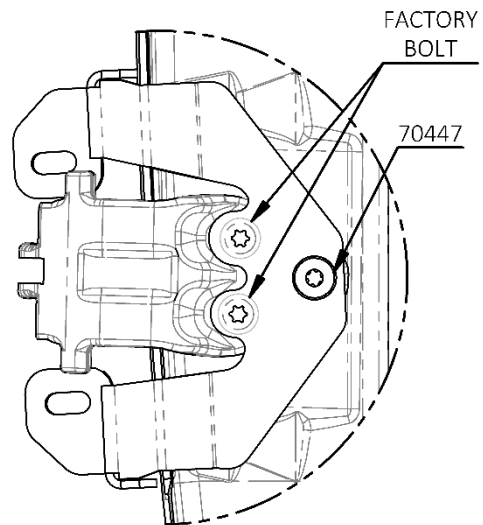

Figure 5: Lower Bracket Installed
12. Reinstall 2 of the factory bolts and the provided countersunk M8-1.0 X 30mm bolt (70477) to attach the bracket to the door as seen in Figure 5.